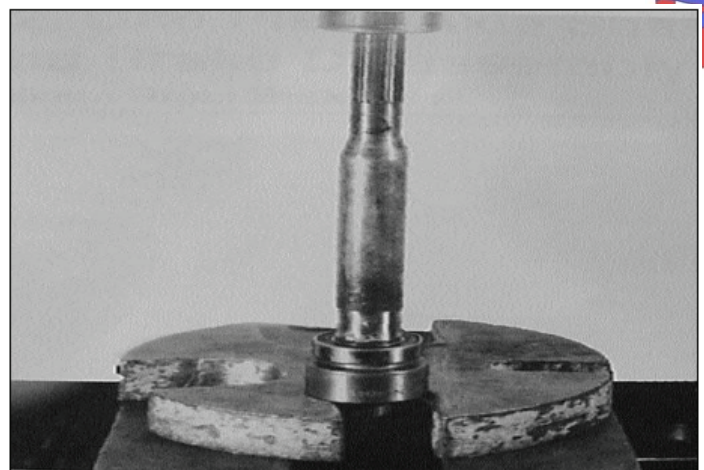
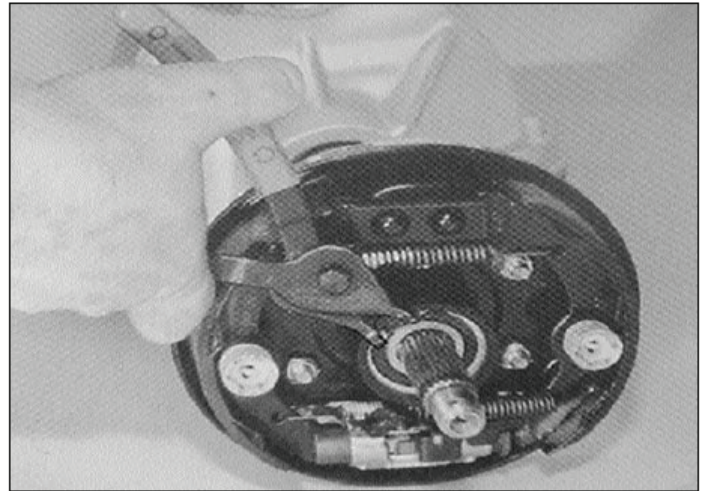

Figure 7-32. Installing Bearings on Axle Shaft
Figure 7-33. Installing Outer Snap Ring
18. Press bearings (28) onto axle shafts (22, 23). Bearing should seat on shoulder. Use appropriate driver to install bearings. See Figure 7-32.
19. Coat lip of seal (26) with SAE 30 oil before inserting axle shaft (22, 23). Insert axle shaft assemblies into tubes. Using a properly sized bearing driver, tap axle shaft assembly until it is seated firmly against inner snap ring (27).
20. Install outer snap ring (27) in each tube (Figure 7-33).
21. Remove fill plug (19) in cover plate (18). Fill axle assembly with 12 ounces (360 ml) of Light Weight Gear Lubricant, SAE 30.